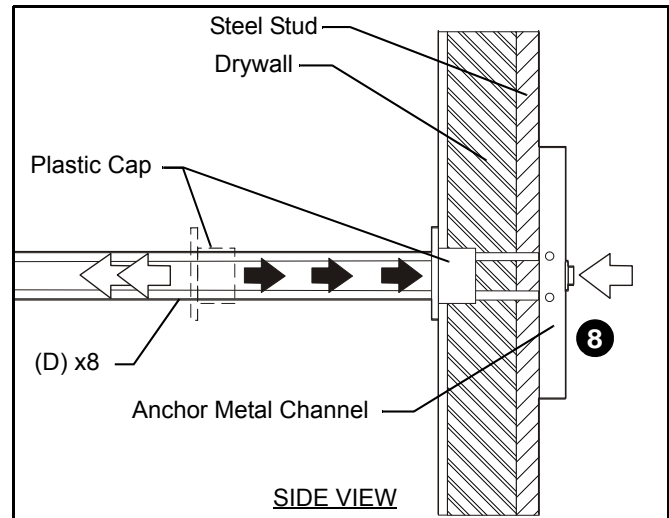

Figure 4
7. Holding plastic straps on anchor (D), pull anchor away from wall until channel rests flush behind wall making sure anchor channel is positioned vertically on stud. (See Figure 4)
8. Slide plastic cap on anchor (D) towards wall until flange of cap is flush with wall. (See Figure 4)